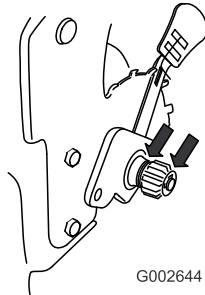

Figure 41
2. Apply a lubricating oil to the inner and outer sides of the gear as shown in Figure 41.